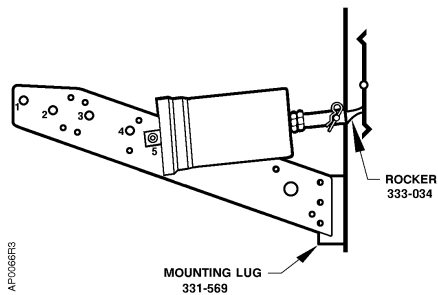

Figure 7. No. 4 Actuator Frame Mounting, Normally Closed Damper.
- a. Normally closed damper: attach plate to lug (Figure 7). Place pivot post in Hole 5.